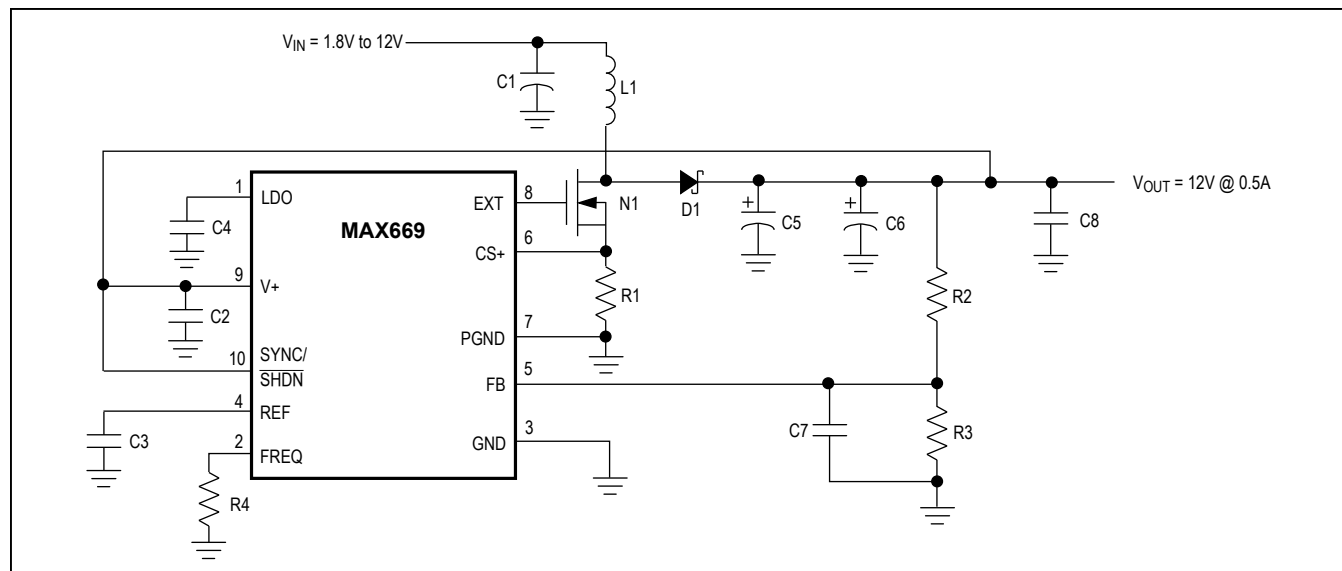
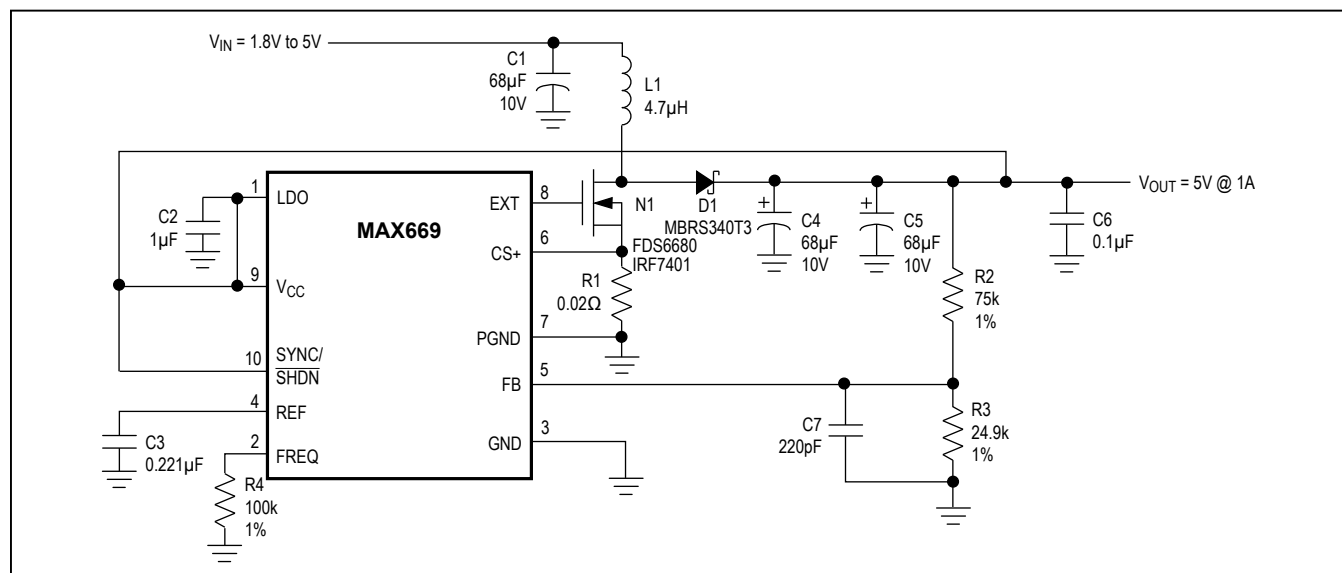
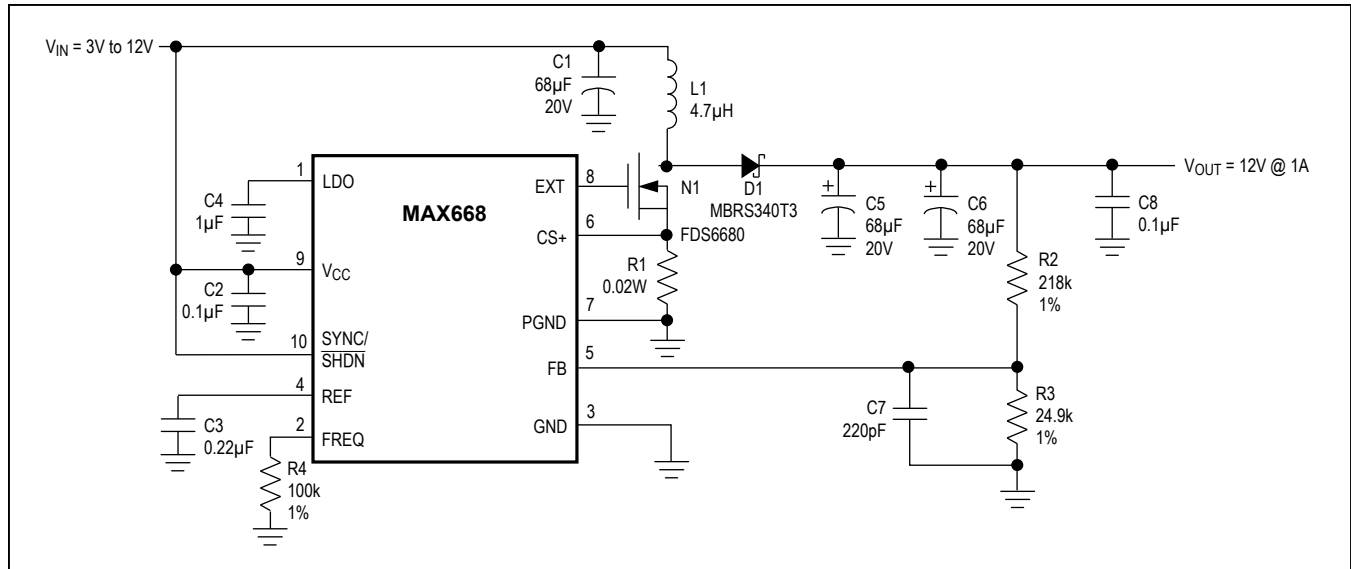
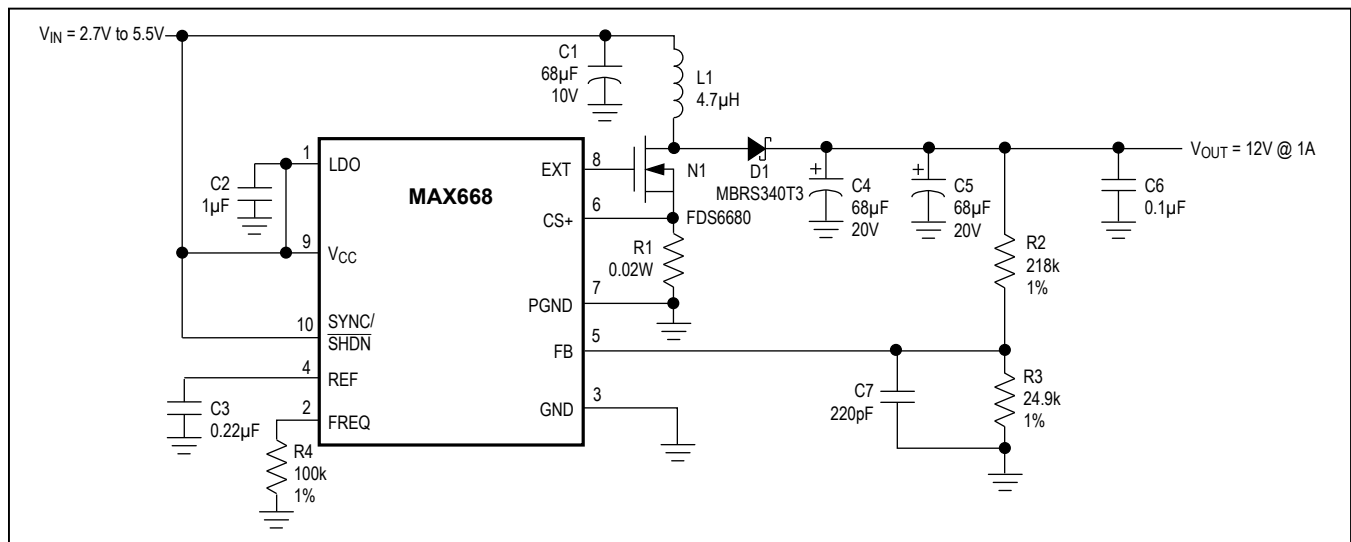

Figure 2. MAX669 High-Voltage Bootstrapped Configuration
Figure 3. MAX669 Low-Voltage Bootstrapped Configuration
Figure 4. MAX668 High-Voltage Non-Bootstrapped Configuration
Figure 5. MAX668 Low-Voltage Non-Bootstrapped Configuration
(Circuits of Figures 2, 3, 4, and 5; $T_A = +25^\circ\text{C}$; unless otherwise noted.)
Typical Operating Characteristics (continued)(Circuits of Figures 2, 3, 4, and 5; $T_A = +25^\circ\text{C}$; unless otherwise noted.)
V_{CC} and LDO allow a variety of biasing connections to optimize efficiency, circuit quiescent current, and full-load start-up behavior for different input and output voltage ranges. Connections are shown in Figure 2, Figure 3, Figure 4, and Figure 5. The characteristics of each are outlined in Table 1.
With V_{CC} connected to V_{OUT} , as in Figure 2, EXT voltage swing is 5V when V_{CC} is 5.2V or more, and $V_{CC} - 0.2V$ when V_{CC} is less than 5.2V. If the output voltage does not exceed 5.5V, the on-chip regulator can be disabled by connecting V_{CC} to LDO (Figure 3). This eliminates the LDO forward drop and supplies maximum gate drive to the external FET.
With non-bootstrapped operation, the IC is powered from the input voltage (V_{IN}) or another source, such as a logic supply. Non-bootstrapped operation (Figure 4) is recommended (but not required) for input voltages above 5V, since the EXT amplitude (limited to 5V by LDO) at this voltage range is no higher than it would be with bootstrapped operation. Note that non-bootstrapped operation is *required* if the output voltage exceeds 28V, since this level is too high to safely connect to V_{CC} . Also note that **only the MAX668 can be used with non-bootstrapped operation**.
If the input voltage does not exceed 5.5V, the on-chip regulator can be disabled by connecting V_{CC} to LDO (Figure 5). This eliminates the regulator forward drop and supplies the maximum gate drive to the external FET for lowest on-resistance. Disabling the regulator also reduces the non-bootstrapped minimum input voltage from 3V to 2.7V.
* For standard step-up DC-DC circuits (as in Figures 2, 3, 4, and 5), regulation cannot be maintained if V_{IN} exceeds V_{OUT} . SEPIC and transformer-based circuits do not have this limitation.
The output voltage is set by two external resistors (R2 and R3, Figure 2, Figure 3, Figure 4, and Figure 5). First select a value for R3 in the 10kΩ to 1MΩ range. R2 is then given by:
where $R2$ and $R3$ are the feedback resistors (Figure 2, Figure 3, Figure 4, and Figure 5). If the calculated value for C_{FB} results in a non-standard capacitance value, values from 0.5 C_{FB} to 1.5 C_{FB} will also provide sufficient compensation.
In non-bootstrapped configurations (Figure 4, and Figure 5), the MAX668 can start up with any combination of output load and input voltage at which it can operate when already started. In other words, there are no special limitations to start up in non-bootstrapped circuits.
Figure 5 shows the MAX668 operating in a 5V to 12V boost application. This circuit provides output currents of greater than 1A at a typical efficiency of 92%. The MAX668 is operated in non-bootstrapped mode to minimize the input supply current. This achieves maximum light-load efficiency. If input voltages below 5V are used, the IC should be operated in bootstrapped mode to achieve best low-voltage performance.